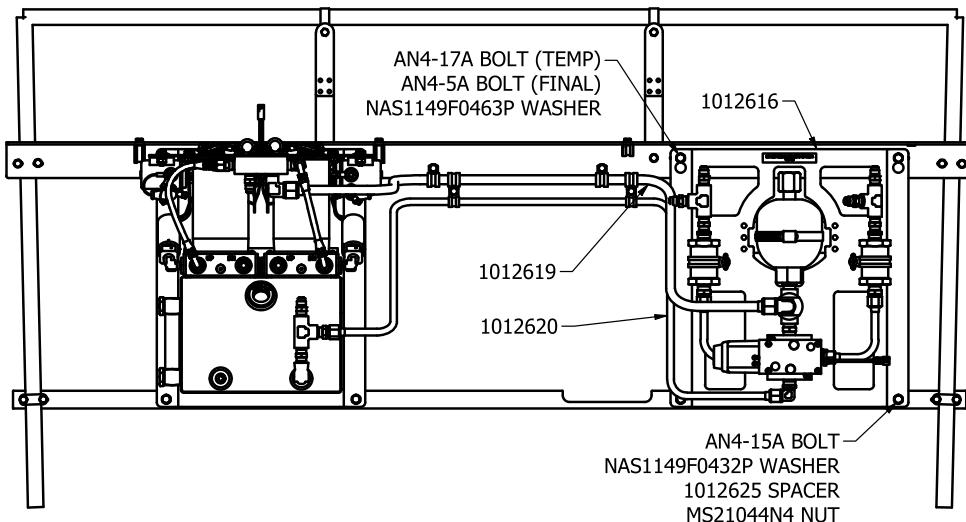

FIGURE 11
i. Hand tight AN4-17A bolts (2) into the nut plates located on upper fuselage mount (1012618) for the directional valve location. These bolts allow the directional valve assembly to hang on the mounts through the key holes in the directional valve mounting plate. Once the directional valve assembly (1012616) is hanging on the AN4-17A bolts, install spacers (1012625) between the directional valve assembly and the fuselage steering support angle (10A12357-086) and mounting hardware on the bottom of the directional valve assembly, as shown in Figure 11.